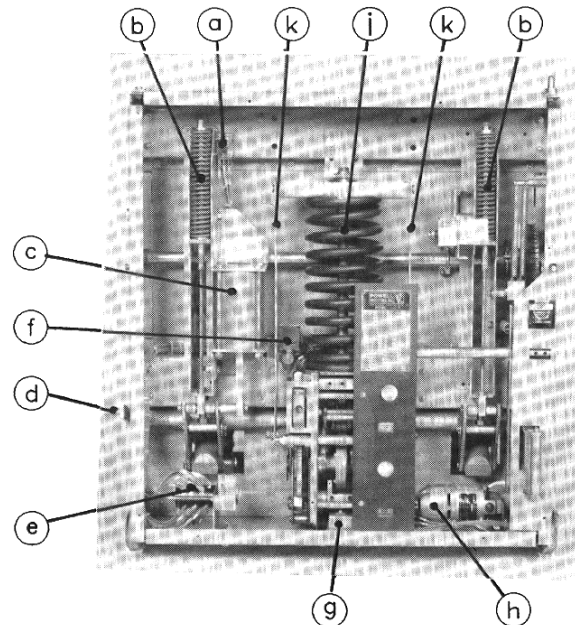

Figure 3.
Removal of nine (9) holding screws enables the front cover to be removed giving access to the stored energy mechanism and its interlocks, auxiliary switches, levering-in operators and interlocks, operating motor and motor cutoff switch (Figure 3).
on the jack shaft have connections to the breaker opening springs (Figure 3). A projection of the left lever engages a shock absorber which controls the rebound of the interrupter contacts on opening operations. An extension of the jack shaft projects through the left breaker side sheet and operates the MOC switch drive.